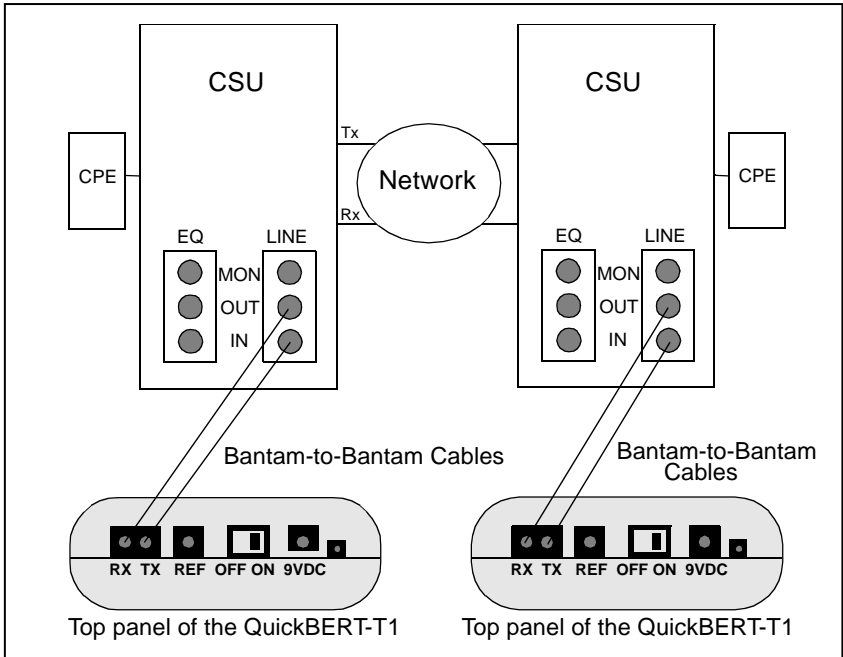

Figure 3-4. Performing an End-to-End, Out-of-Service BERT
- b. Test with another test set at the distant end. See Figure 3-4 for an illustration of this setup.